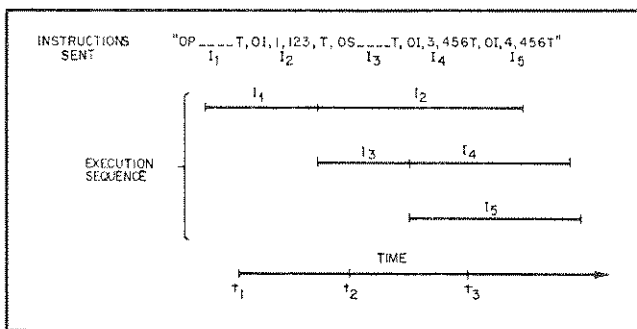

Figure 5-26. Multiple Interrupt Instructions
5-210 Another feature of Interrupt Instructions is that multiple interrupt instructions of the same type will run in parallel with respect to each other. Thus, multiple independent applications can run in parallel using the interrupt instructions. Figure 5-26 illustrates three OI instructions (I_1, I_4, I_5) running in parallel. Note that at t_2 , I_4 will not start until I_3 (an OS) has completed. At t_3 , the three OI instructions are all running in parallel.
5-211 **Restrictions.** As noted in Figure 5-26, once the OI instructions get started, they run in parallel. There are a few restrictions:
1. Interrupt Instructions run in parallel only after they have been started. The OI and II instructions are started following the rules of the current mode. In the serial mode, no other instructions can be executing (except other interrupt instructions that were already started) when an OI or II instruction is started. Thus in Figure 5-26, I_4 will not start until after I_3 has completed.